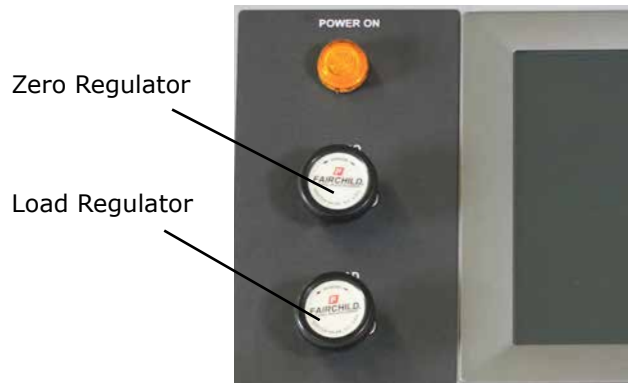

Figure E.16 - Zero Regulator & Load Regulator
3. Adjust the zero regulator (see Figure E.16) until the loading shaft contacts the non-compliant beam with a minimal force of 35 ± 10 mN.